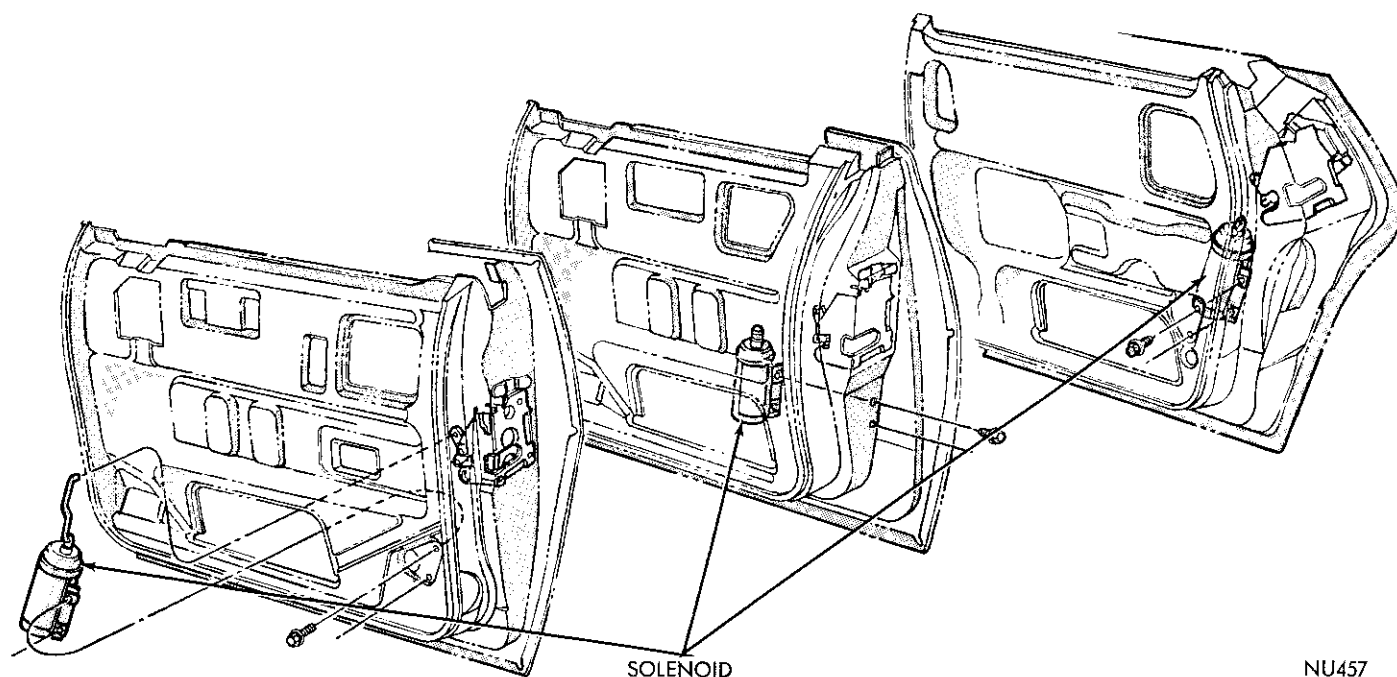

Fig. 28—Solenoid Attachment
(1) Loosen solenoid to mounting bracket screws (Fig. 28).
(2) Push lock lever to down position and slide solenoid to full down position in mounting bracket.
(3) Raise lock lever to up position, extending solenoid rod to maximum up position.
(4) Tighten solenoid to mounting screws and test operation of lock.
(1) Disconnect solenoid link at solenoid (Fig. 28).
(2) Remove solenoid lead wires.
(3) Remove solenoid to door panel screws and remove solenoid assembly.